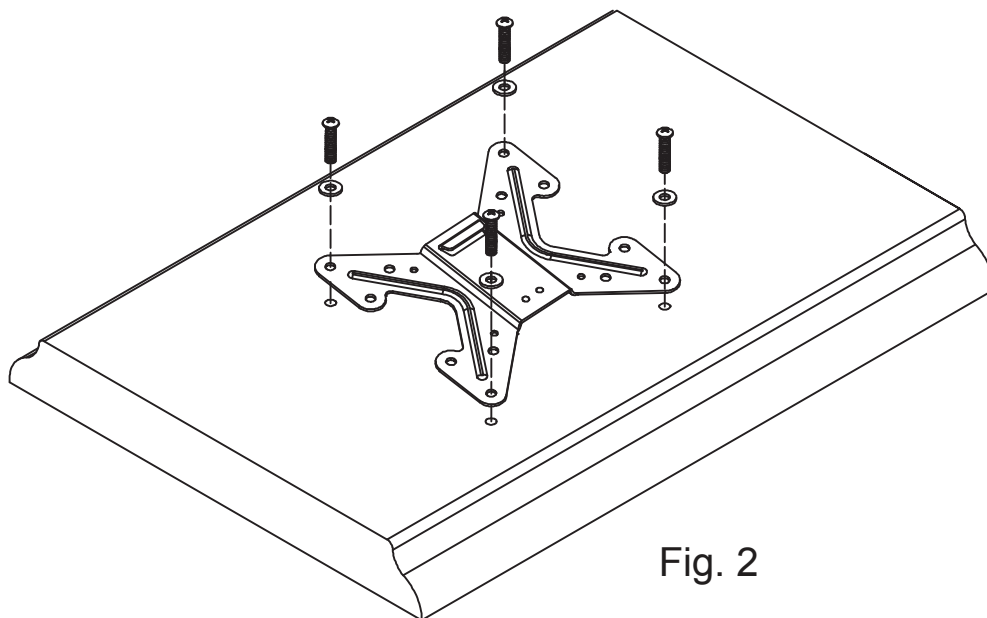

Fig. 2
Use the selected bolts (D-J) and the washers (M-N) to install the TV Plate (2) to the rear of the TV as shown below in Fig. 2. Tighten securely using the Allen wrench (K). Do not overtighten.